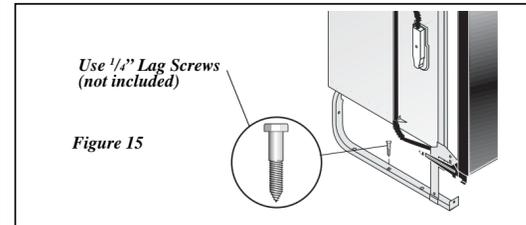

Figure 15
1. Screw ¹/₄" lag screws, (not included), through holes provided in frame rail. See **Figure 15**.